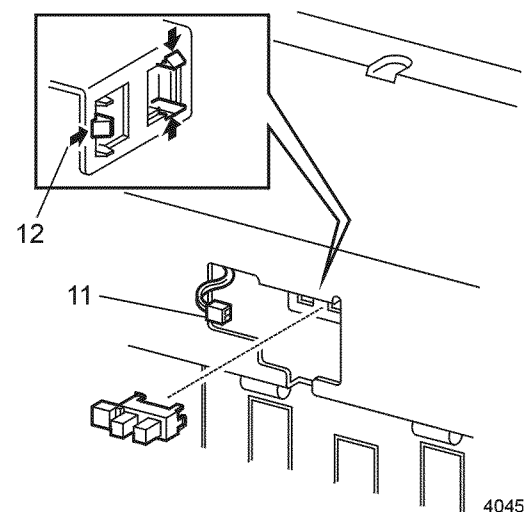

Figure 1 Registration Sensor
11. Disconnect P/J183 from the Registration Sensor (Figure 1).
12. Release the three locking tabs and remove the sensor (Figure 1).